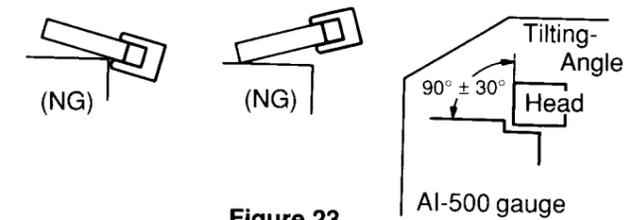

Figure 23
- (4) Adjust the height of the head as shown in Figures 23, 24 and 25.
- ① Place the height adjustment gauge (AI-500) on the head base, and adjust the height so that the check bar fits in the tape head guide smoothly.
- ② When the check bar touches the top (or bottom) of the tape guide, insert a spacer (t 0.1 mm or polislider washer t 0.13 mm). If necessary, remove the spacer.
**Note:** If you do not have a height gauge like described in (4)-①, run the tape at normal speed and adjust the height of the head and the tape head guide so that the tape does not curl.